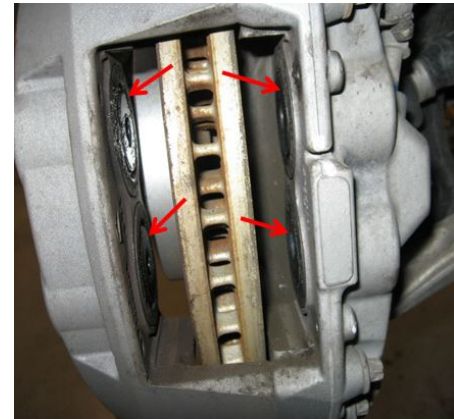

Figure 2. Location of pistons.
- Thoroughly clean and dry each piston (Figure 2, arrows) to ensure that the new pads will properly adhere to the pistons.